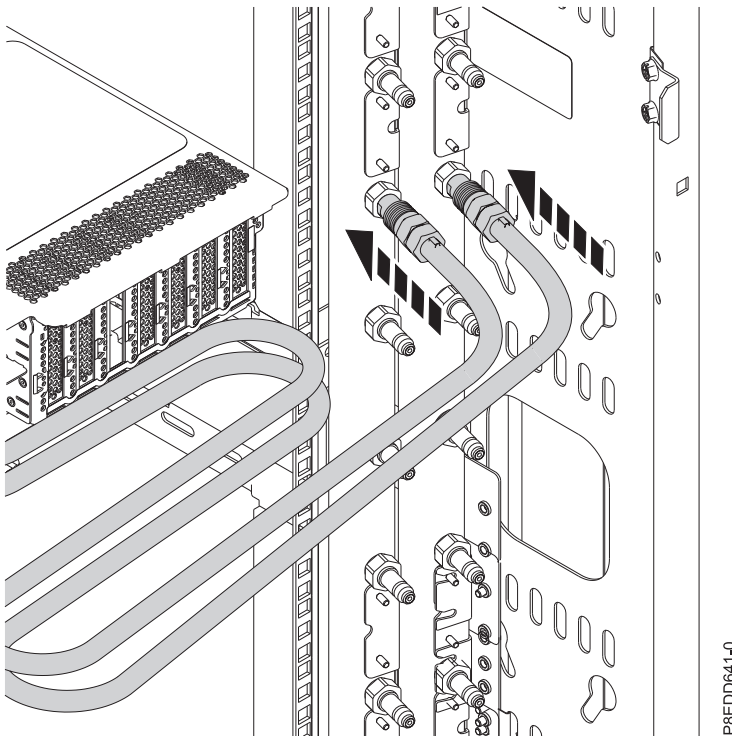

Figure 12. Reconnecting the water hoses
5. Replace the cables and water hoses into the cable management arm. Reconnect the cables. Reconnect the water hoses at the rear of the rack, as shown in Figure 12.